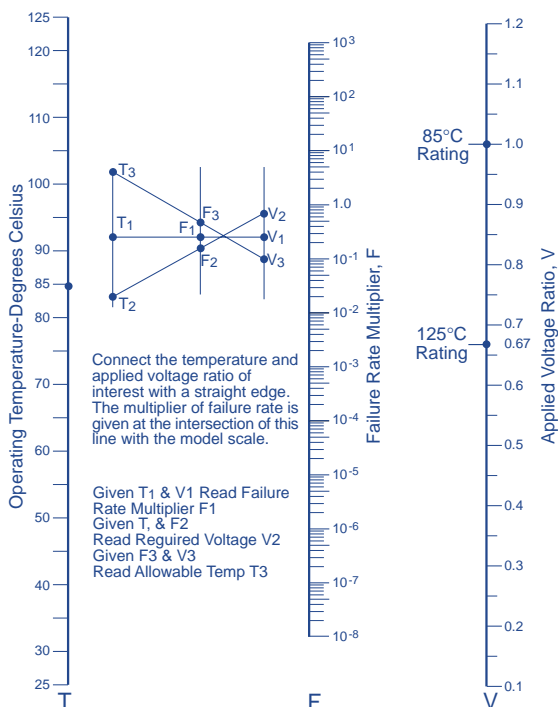

Fig.5 Reliability Alignment Chart
Expected reliability factors for voltages and temperatures other than the rated conditions may be found in Figure 5. Since T240 Series capacitors are supplied with a predetermined failure rate under rated conditions, reliability under use conditions may be estimated with this nomograph.
**Circuit Impedance** — Failure rates are affected by temperature and voltage as described in Figure 5 and also by the circuit impedance seen by the capacitor. Traditionally, application advice for solid tantalum capacitors suggested an impedance of 3 ohms or higher per applied volt. This advice was later found to be unnecessarily conservative, and the factors in Table II, are based on 0.1 ohm per volt as the unity failure rate multiplier.